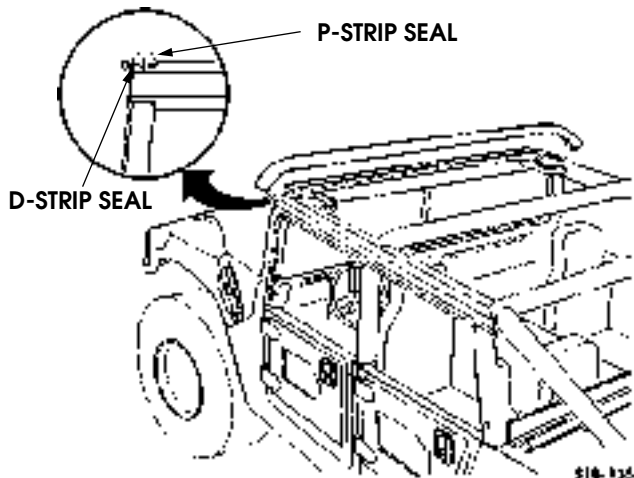

Figure 10-133: D-Strip Seal Removal
- Remove D-strip seal from windshield frame. Do not remove P-strip seal (Figure 10-133).